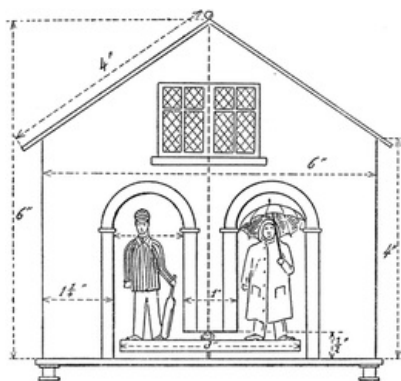

FIG. 501
**A Hygroscope.** The cottage is made of thin wood about 1/8 inch to 3/8 inch in thickness, according to measurements given in Fig. 501. The sides are about 3½ inches. The platform or floor on which it stands, 6½ inches by 4 inches. The sides of the roof
the roof. This can be made by filing, with round fret-saw file, a little hollow (Fig. 503) in each of the top sides of the roof, so that when they come together a hole is formed. The back, sides, floor and roof may now be nailed and glued together. Next cut out from three-ply wood with the fret-saw two little figures as in Fig. 501; they should be about 2 inches to 2¼ inches, and should be suitably coloured. These are glued to the wooden disc.